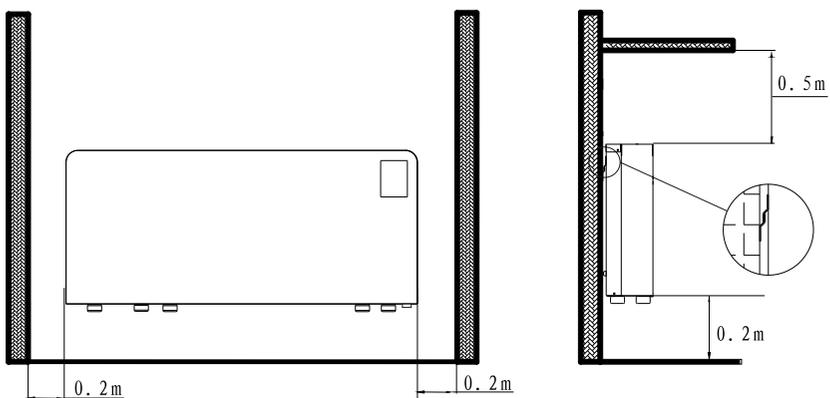

Fig.5
4.3.2 Fig. 5 indicates the minimum mounting distances between the wall-mounted swimming pool dehumidifier and furniture in the room.